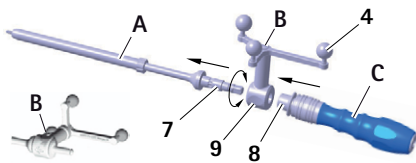

Fig. 6 Mounting the reference star unit ("pre-calibrated") and S⁴C handle onto the S⁴C taper
- ▶ Release locking sleeve **8**, see Fig. 6.